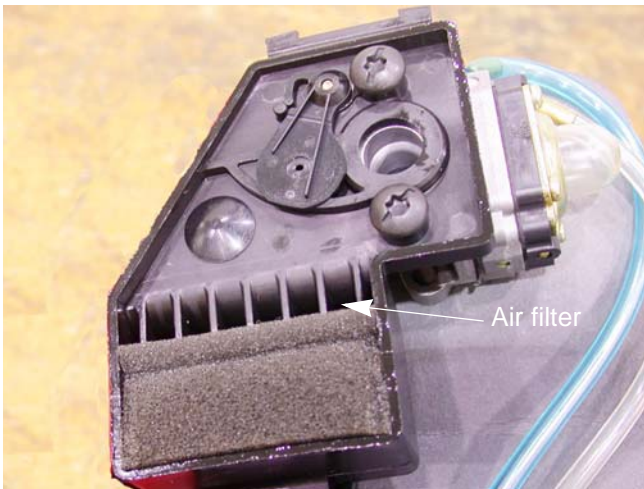

Figure 2.6
2. Pull the filter out. See Figure 2.6.